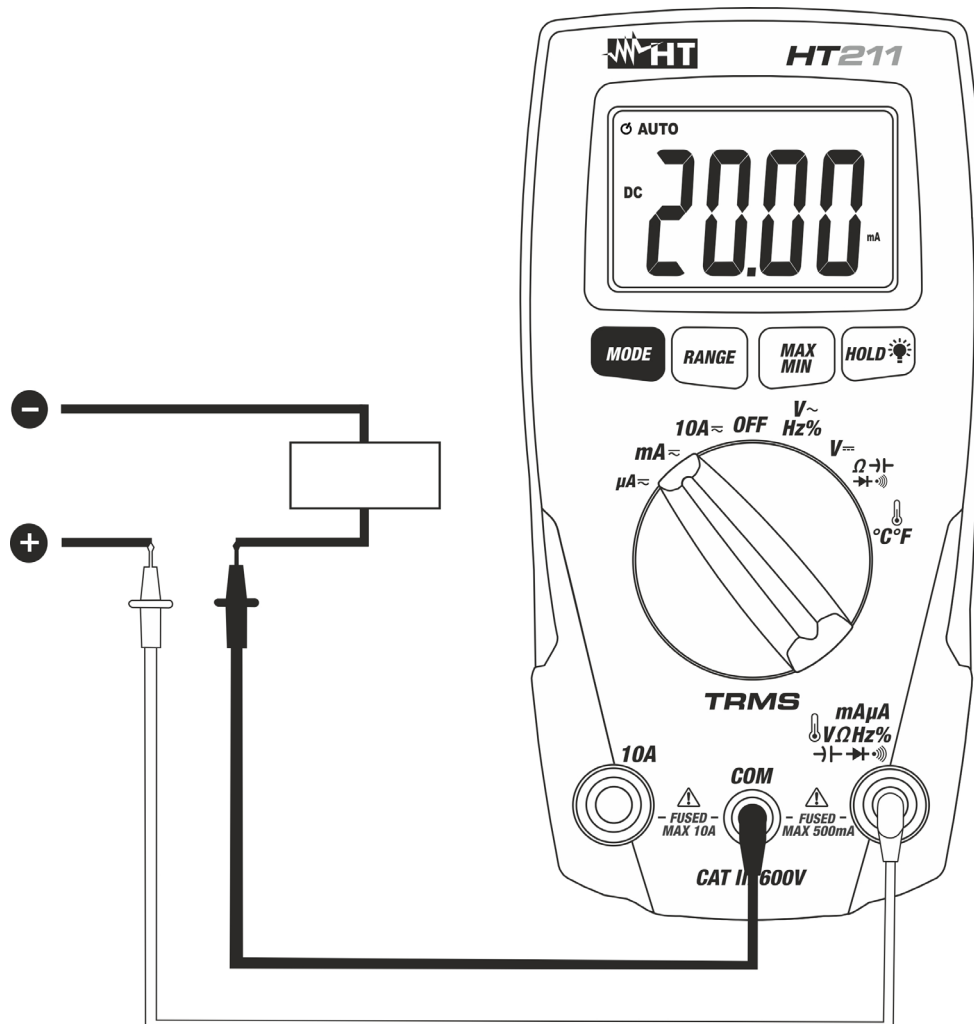

Fig. 9: Using the instrument for DC Current measurement
5. Connect the red and the black plugs in series with the circuit whose current is to be measured respecting the polarities (see Fig. 9)
4. Connect the red and the black plugs in series with the circuit whose current is to be measured (see Fig. 9)